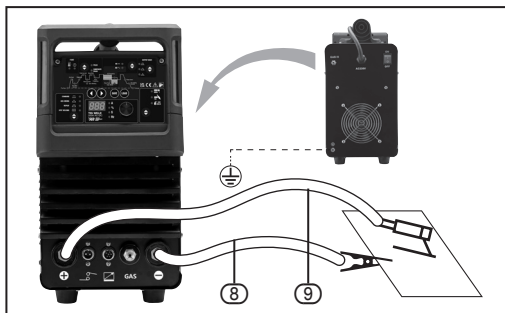

FIG. 8
7.4 MMA (MANUAL METAL ARC) SETUP – FIG.8
- To attach the electrode holder (9) to the front panel, insert the plug into the connection port marked '+' (1) and twist to lock.
- Attach the earth clamp (8) into the connection port marked '-' (5) – plug in and twist to lock.